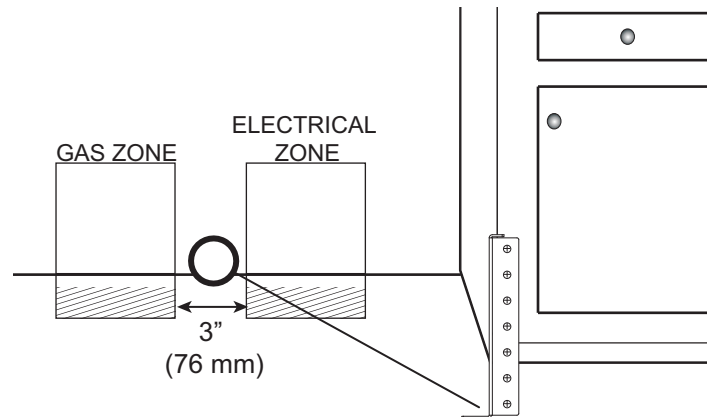
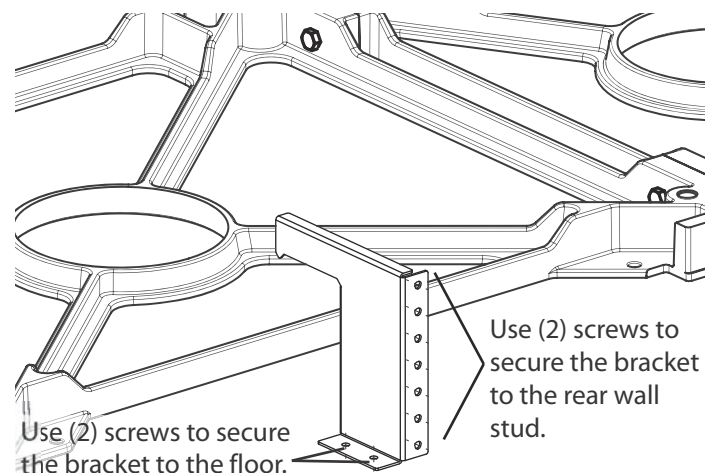

Figure 13: Anti-tip Bracket Mounting Location
Figure 14: Anti-tip Bracket
- At least (2) of the bracket mounting screws must firmly fasten the anti-tip bracket to the floor, and (2) of the mounting screws (or drywall anchors) must firmly fasten the anti-tip bracket to the rear wall (see *Figure 13* and *Figure 14*).
1. Place bracket on floor near the center of where the unit is to be finally located (*Figure 13*).
2. Secure bracket into the wall stud using (2) mounting screws or drywall anchors, as appropriate (*Figure 14*).
3. Secure the bracket to the floor using the screws provided (*Figure 14*).